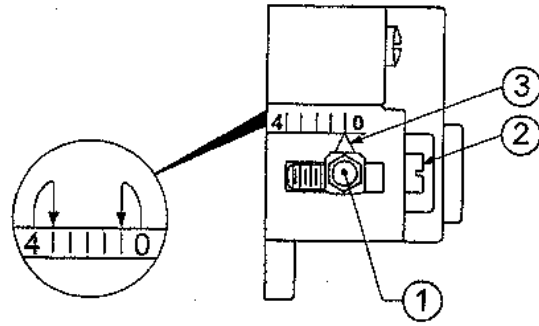

Figure 26: Turbulator Setting
6. **Turbulator Setting**, Refer to Figure 26